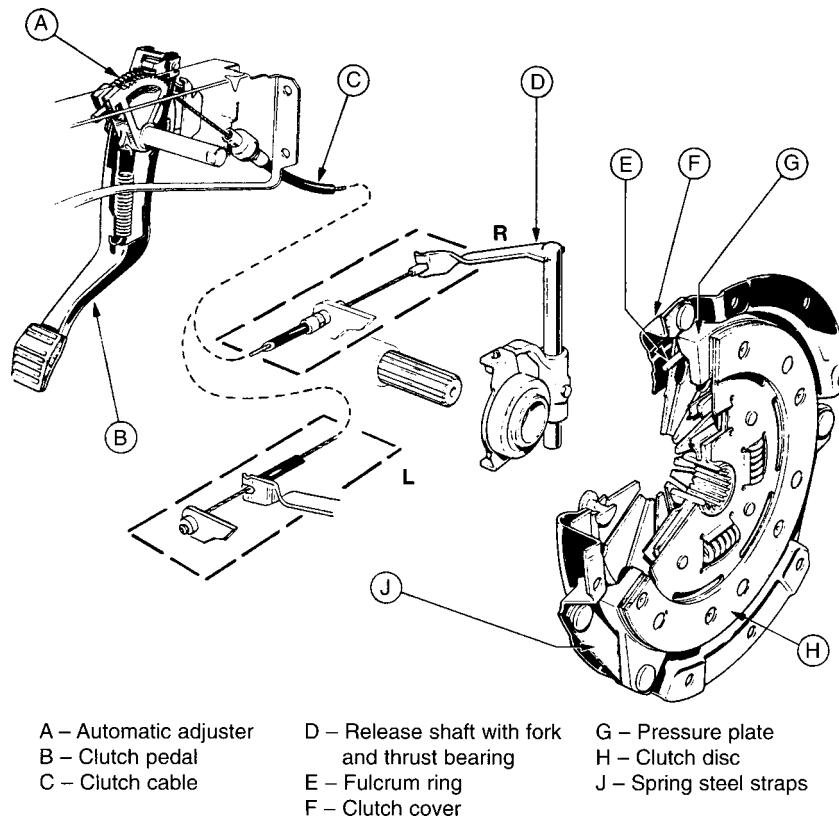

Fig. 5.2 Diaphragm spring clutch components (L = LHD, R = RHD)
The diaphragm-spring clutch (shown in Fig. 5.2) is similar in many ways to the coil spring type. The **spring pressure** is provided by the **diaphragm** which also acts as the lever to move the pressure plate. On depressing the clutch pedal the release lever is forced towards the flywheel thus pulling the pressure plate away from the flywheel. This type has a number of advantages over the coil spring type.
To overcome these problems the plate is normally **slotted** or '**set**' in such a way as to produce a flexing action. Whilst disengaging, the driven plate will tend to jump away from the flywheel and pressure plate to give a clean break. Whilst in this position the linings will be held apart and air will flow between them to take away the heat. During engagement, spring pressure is spread over a greater range of pedal movement as the linings are squeezed together. This gives easier control and smoother engagement. In most cases the hub is mounted independently in the centre of the clutch plate, allowing it to twist independently from the plate. To transmit the drive to the plate either springs or rubber, bonded to the hub and plate, are used. This flexible drive absorbs the torsional (twisting) shocks due to the engine vibrations on clutch take-up, which could otherwise cause transmission noise or rattle. These features can be seen in the clutch drive (H) in Fig. 5.2.
This operates on the principle of levers and rods or cable. The movement ratio and force ratio can be arranged to give a large force acting on the clutch with a small force acting on the pedal. Figures 5.2 and 5.4 shows this system.
The mechanical system is usually a flexible cable and may have an automatic self-adjusting mechanism as in Fig. 5.2 or else it may need to be checked and adjusted at regular service intervals.